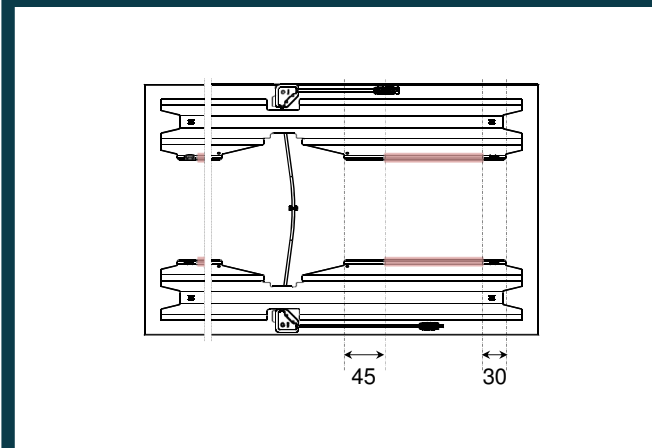

Fig. 6: Rear side of a shortened module with a length shorter than 1256 mm in „Hook-In“ mounting variant
- On SKALA PV modules shorter than 1256 mm, the slip-off protection is positioned inwards, changing the permissible clamping area on the mounting lip. Figure 6 shows the permissible clamping area on the mounting lip in this case, excluding the first 3 cm and the last 4.5 cm, measured from the outer end.